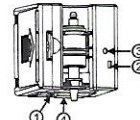

FIGURE 2
2. Close the cover and the LED will flash 3 times indicating the dispenser is ready for use, place hand(s) underneath dispenser within 5" of the sensor. the dispenser will dispense approximately 0.4ml of soap into your hand(s). if additional soap is needed, open the cover and put the toggle switch (figure 2) to 2 or 3 the dispenser will work 2 or 3 times. The LED will flash until the dispenser finishes.